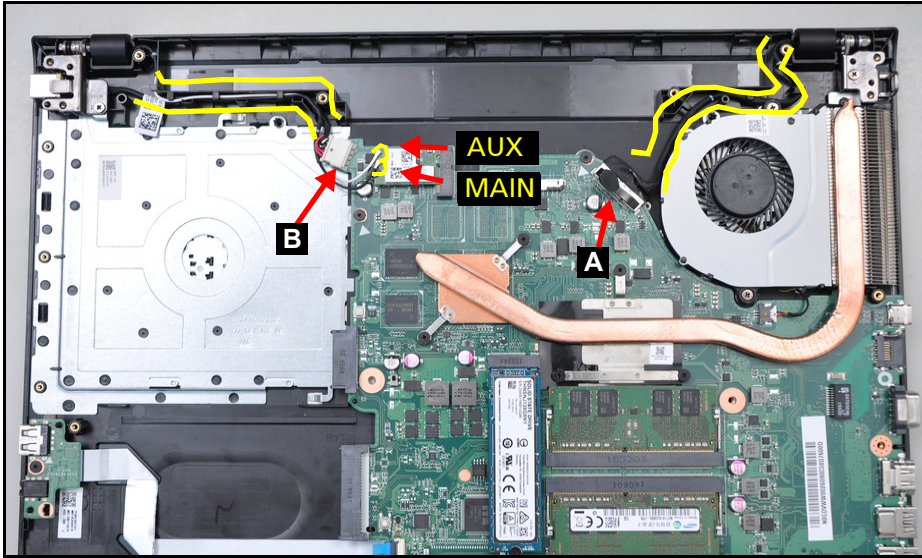

Figure 3-88. WLAN Antenna & eDP Cable Location
3. Connect the eDP cable to the mainboard connector (A) and route it to the cable guides (Figure 3-88).
4. Route the WLAN antennas to the cable guides (Figure 3-88).
5. Connect the AUX antenna (white-color) to the WLAN AUX pin (Figure 3-88).
6. Connect the MAIN antenna (black-color) to the WLAN MAIN pin (Figure 3-88).
7. Route the DC-in cable to the cable guides and connect the DC-in cable to the mainboard connector (B) (Figure 3-88).